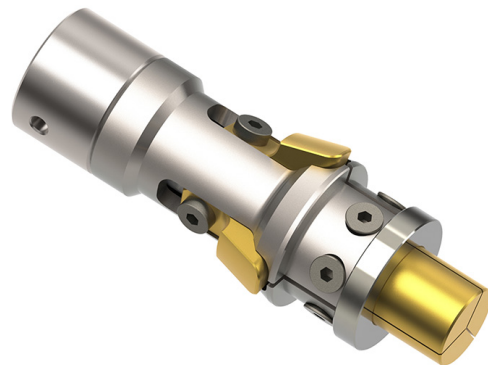

Figure 2
- 6) Position the limiting ring (10) *(see figure 2)* on the collet nose
- 10) Position the limiting ring (10) (*see figure 2*) on the collet nose